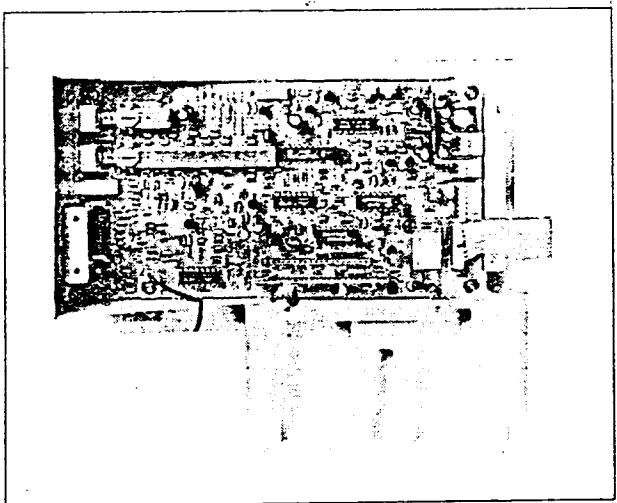

FIG. 8
3. Remove the five screws marked (F) shown in Fig. 8: